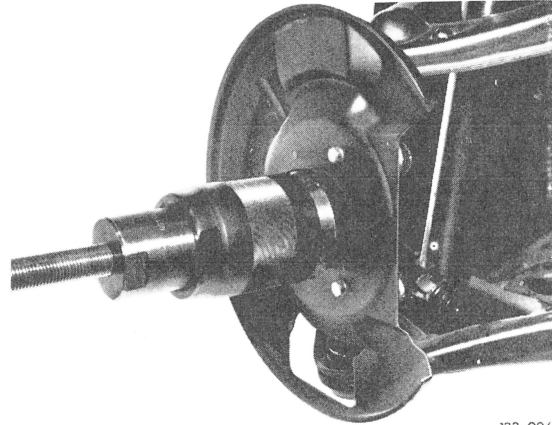

Fig. 4
- a) Pull the inner race of the tapered roller bearing off the steering knuckle (Fig. 4).